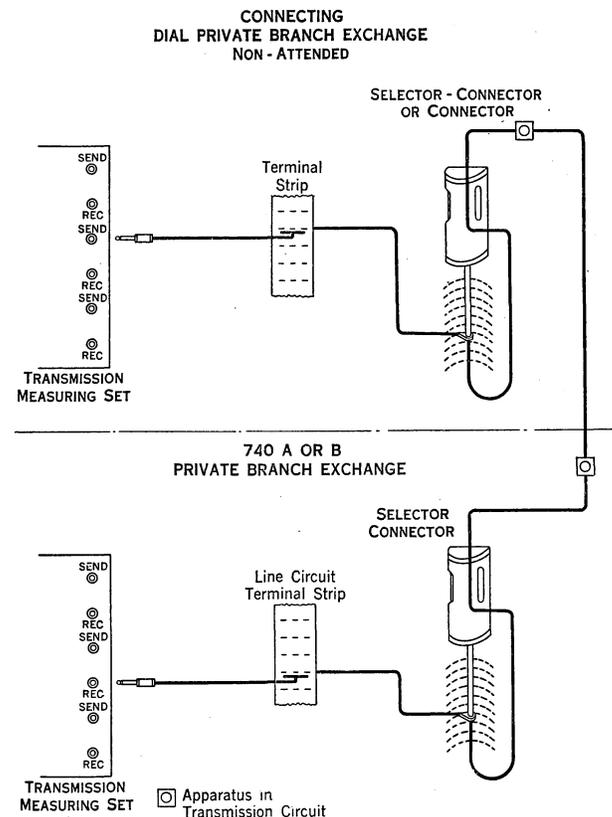

Figure 9
2.129 Figure 9 shows schematically the connections for the test.